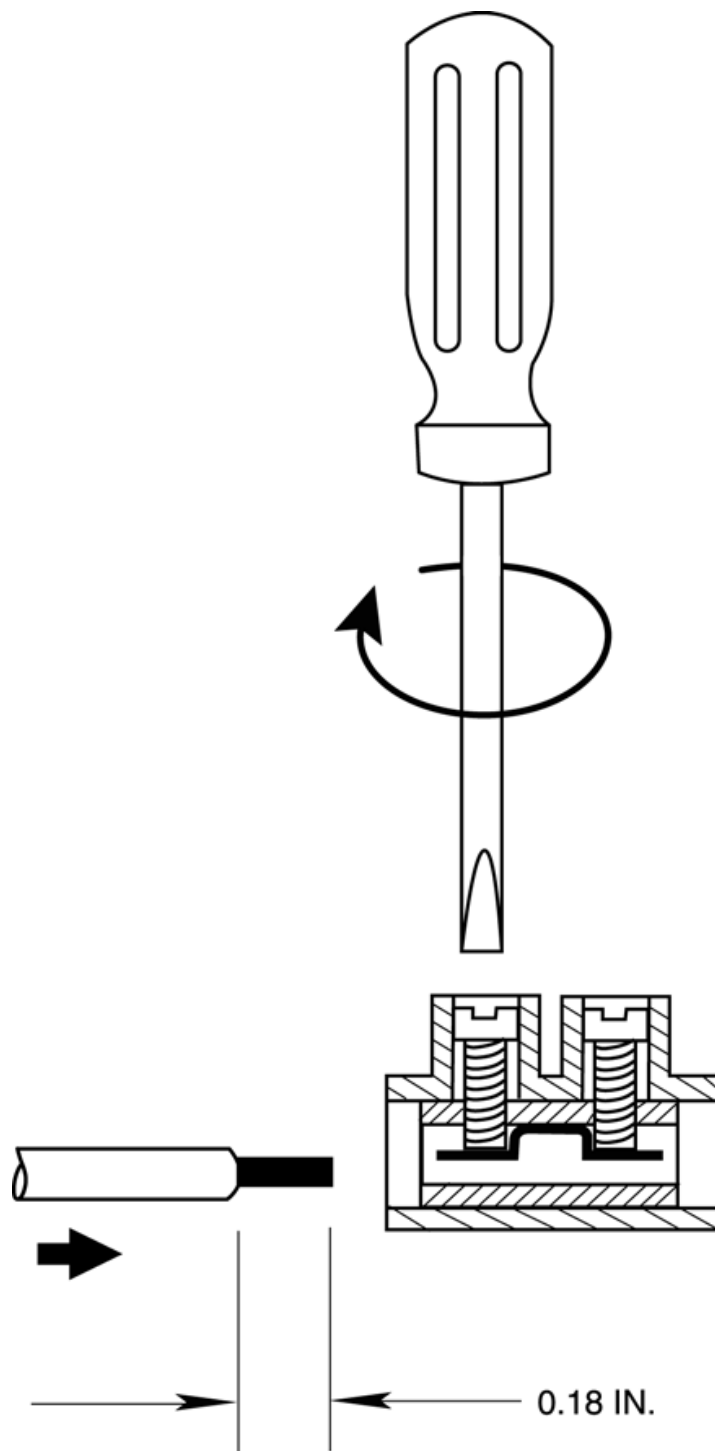

Figure 2-2: Connecting Wire to the Terminal Strip
- 7 Connect wires to the terminals 7 and 2 as show in Figure 2-2, "Connecting Wire to the Terminal Strip," on page 2-5.